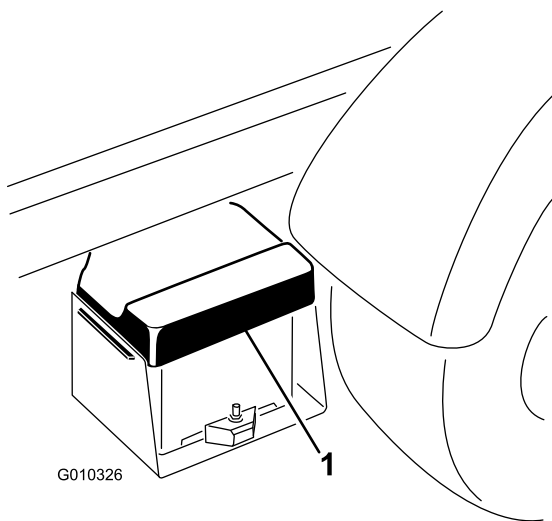

Figure 3
- A. Squeeze the battery cover to release the tabs from battery base (Figure 3).
- B. Remove the battery cover from the battery base (Figure 3).
2. Squeeze the battery cover, align the tabs to battery base, and release battery cover (Figure 3); refer to Preparing to Install the Kit.